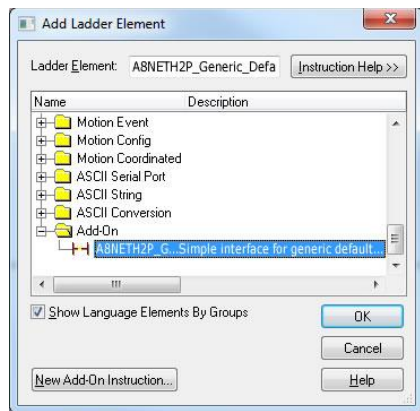

Figure 33: Add Generic Default Add-On Instruction
- 8) Select the generic default I/O add-on instruction in the Add-On folder. Refer to Figure 33.